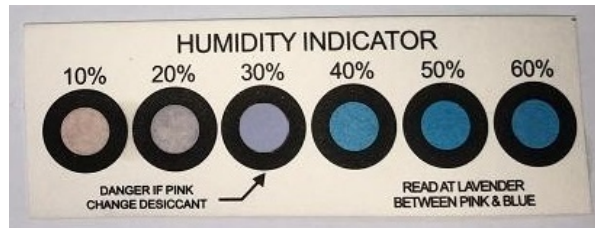

Figure 5-5 Abnormal Humidity Indication
- When the 30% circle is lavender and the 20% circle is pink, the humidity condition is abnormal. See **Figure 5-5**. Bake the module before surface mounting.